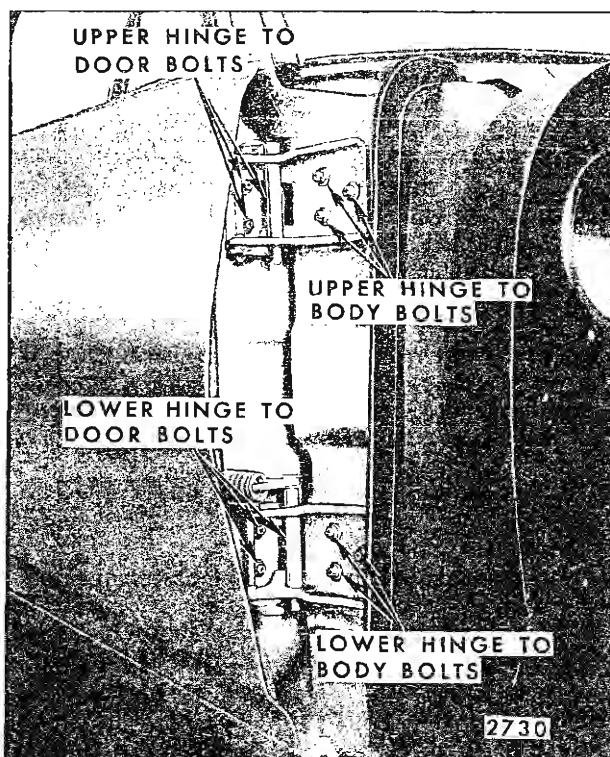

Fig. 6-59—Typical Front Door Hinge Attachment
The front door is mounted to the front body hinge pillar with an upper and lower hinge. Figure 6-59 illustrates typical front door hinge installation. On "E" styles, the hinges are the "swing-out" type, which means that the leading edge of the door swings outboard of the front fender when the door is opened. All other styles use "swing-in" type hinges, which means the leading edge of the door swings inboard of the front fender when opened.
- If both hinges are to be removed, remove front door as previously described. Mark position of hinge on body hinge pillar and remove hinge to body hinge pillar attaching bolts (Figure 6-59).
- With the aid of a helper to support door, remove upper and lower hinge to door attaching bolts (Figure 6-59) and remove door from body.